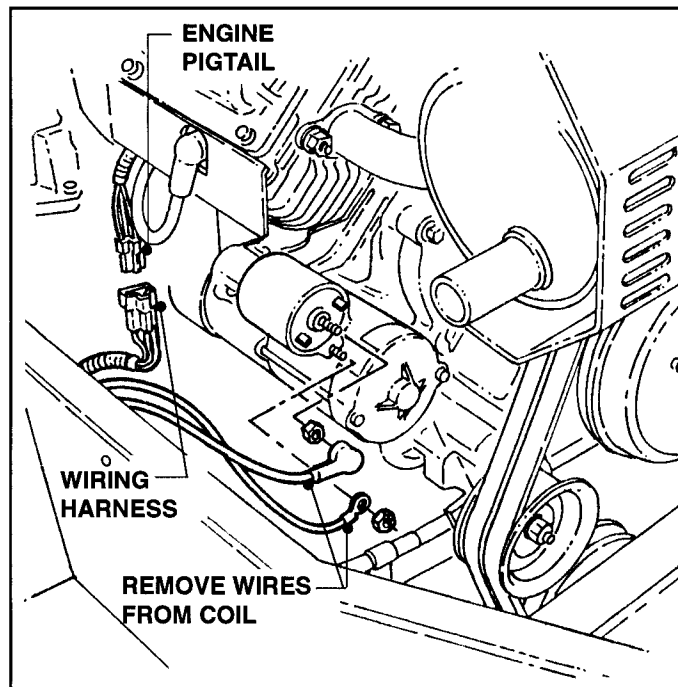

FIGURE 4.3
- B. Disconnect Engine Pigtail from Wiring Harness. See Figure 4.3.
- C. Remove Wires from Coil. Refer to Figure 4.3.